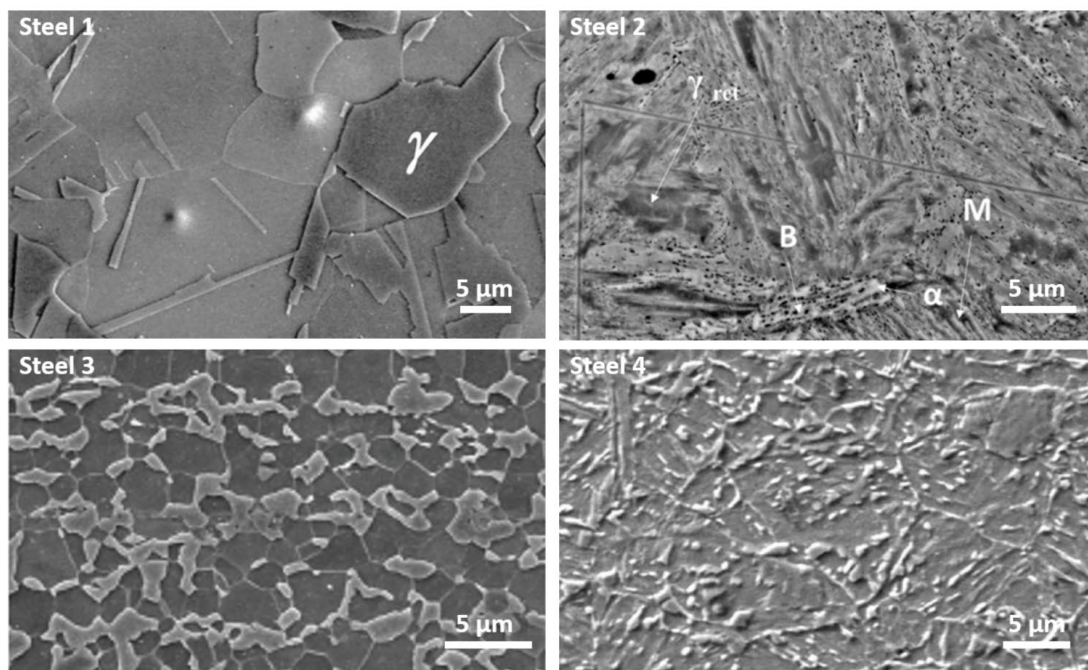

Figure 1. SEM images of steels 1-4;
- a) In Table 1, the chemical compositions of several steels are listed in wt.%. Their SEM images are respectively shown in Figure 1.
- Associate the steel numbers in Table 1/Figure 1 to the following types of steels and justify your answer briefly: DP, CP, TRIP, and TWIP steels. (2P)